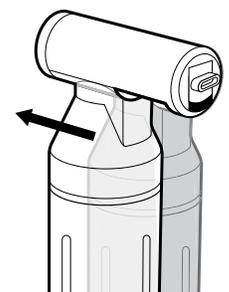

Figure 7. Can slides toward valve to inflate
9. Push the can toward the inner tube valve (Figure 7). As the can slides along the head, this will release CO2 into the tire.